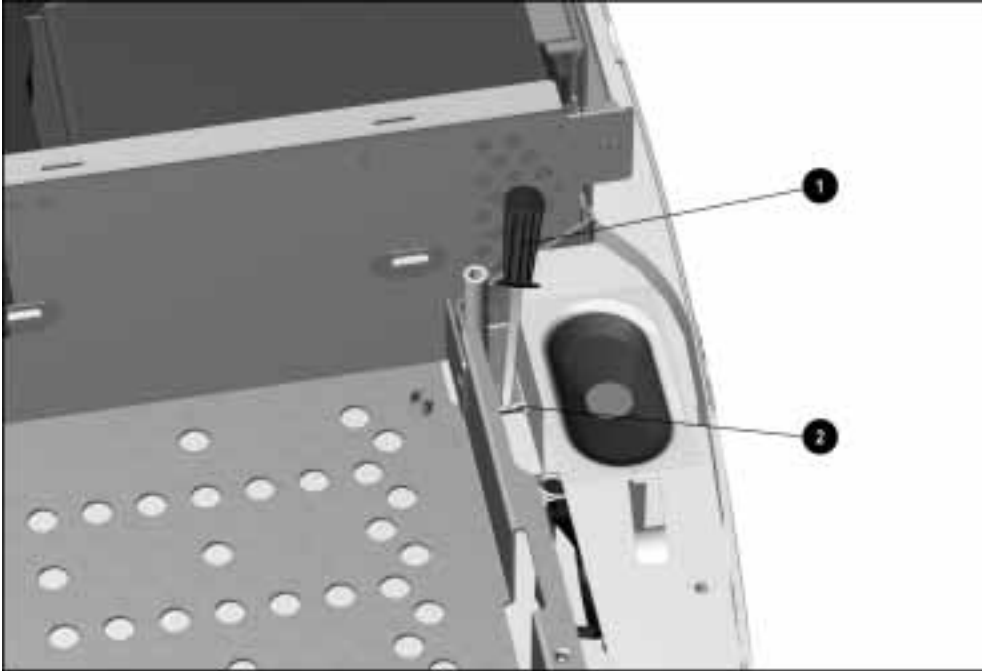

Figure 5-44. *Tripping the C/U Actuator*
5. Use a flat-blade screwdriver ❶ to trip the C/U actuator ❷ into the proper position by pushing down on the actuator tab (Figure 5-44).